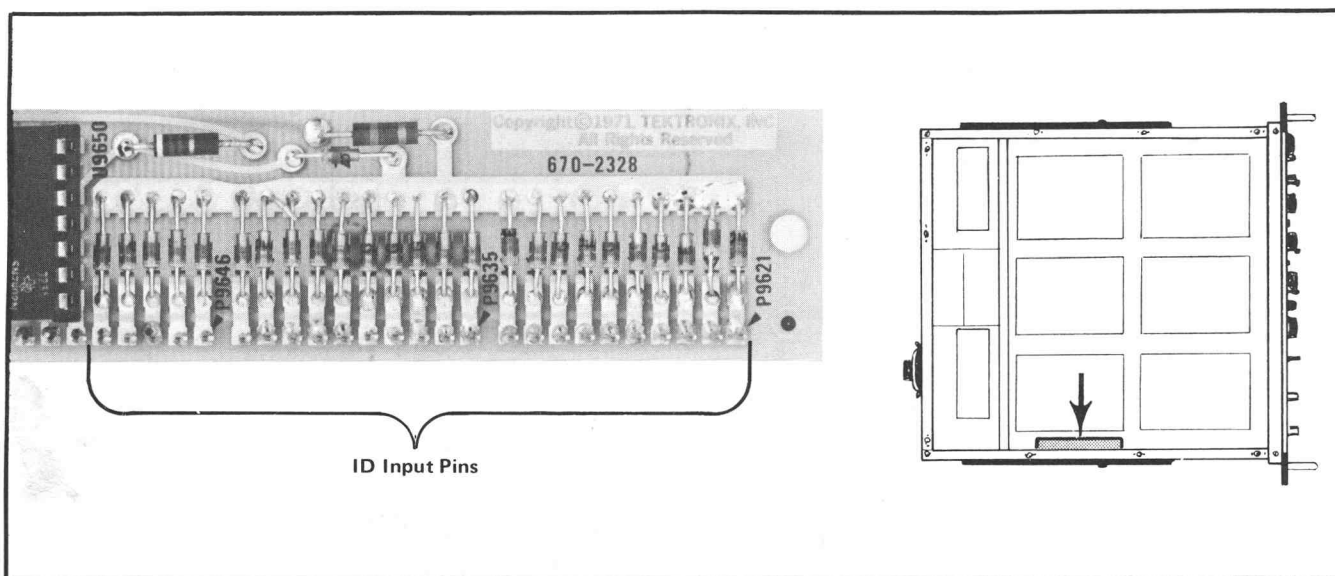
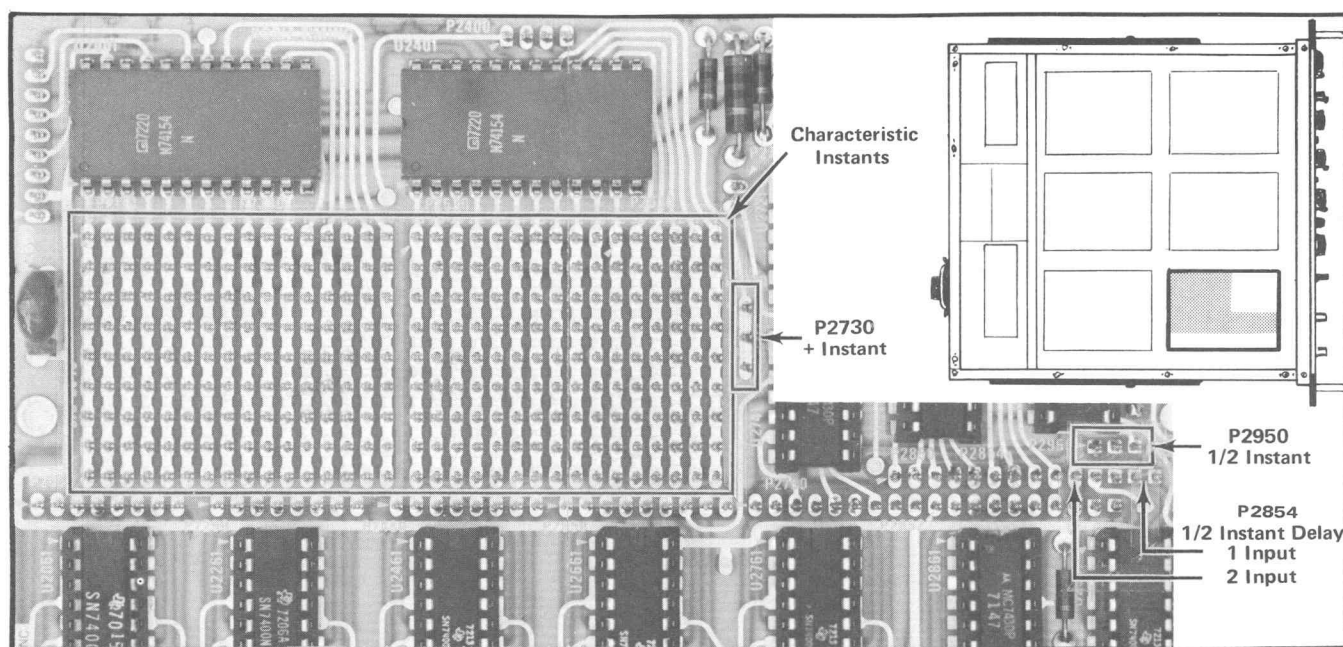

Fig. 2-7. Identification Code circuit board showing locations of input pins; Program Source Identification.
Fig. 2-13. Horizontal Timing circuit board showing locations of Characteristic Instants (use with Table 2-3); Horizontal Programming.
No coding is shipped from the factory. To use, determine the coding desired and connect wires between the Characteristic Instant pins (located on the Horiz Timing circuit board, see Fig. 2-13) and the input pins on the Identification Code circuit board, see Fig. 2-7. For field selection, see Insertion Test Signal Line and Field Selection in this section for details.
b. Using Fig. 2-13 and Table 2-3 as guides, program the RAMP as follows:
All signal programming is controlled by selection of various gate signals derived by the Horizontal Counter. These gate signals are brought to circuit board square pins for easy access. (See Horiz Timing circuit board, Fig. 2-13.) There are three groups of pin connectors: Instant, +, and 1/2 Instant. The first group, Instant, is arranged to provide 32 columns of pin connectors. These columns are num-